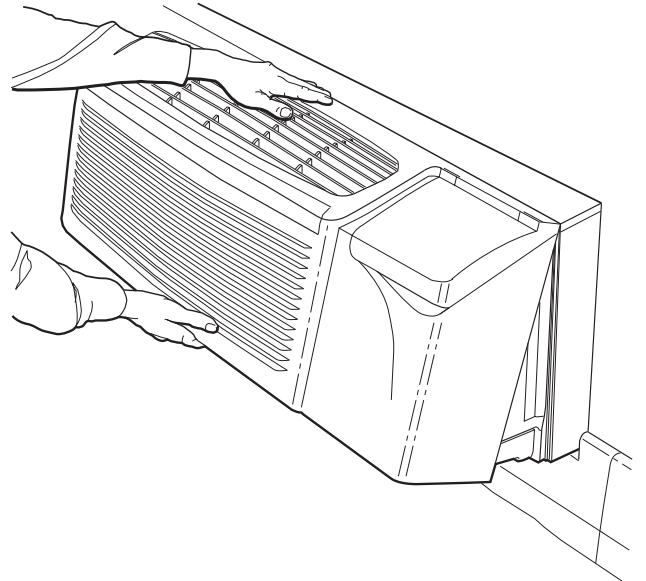

Fig. 2 — Removing Front Panel
Step 2 — Remove front panel from unit by grasping the panel firmly at the center top and center bottom, and then pulling the panel upward at the bottom and forward at the top to release magnetic latches and partition hooks. See Fig. 2.